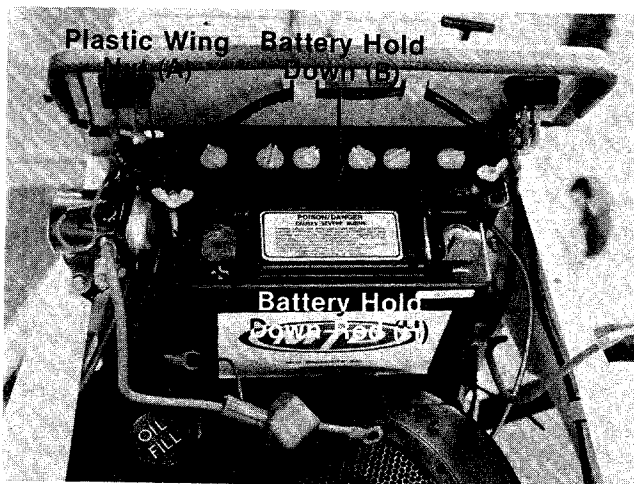

FIGURE 7.
- ← 4. Place the battery hold down (B) over battery. See figure 7.
5. Secure battery hold down (B) with two hold down rods (H) and plastic wing nuts (A). See figure 7.